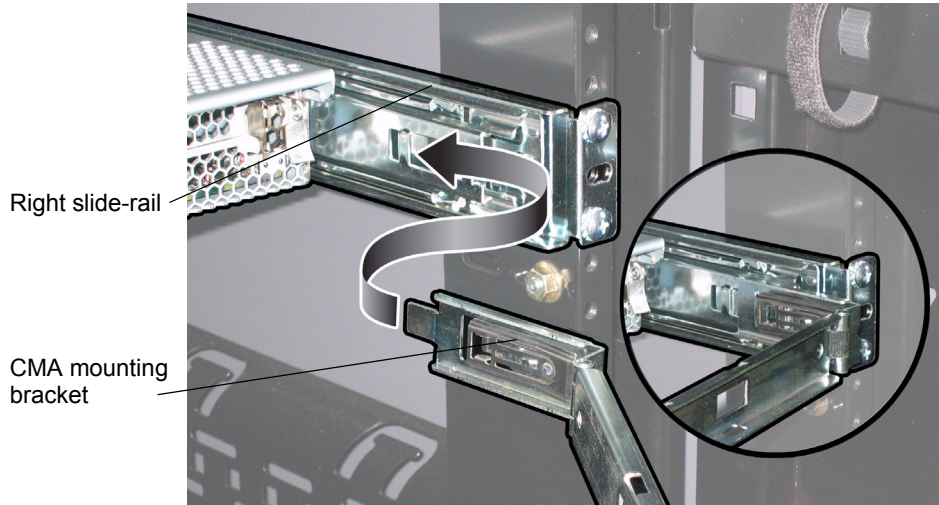

FIGURE 1-7 Inserting the CMA Mounting Bracket Into the Rear of the Right Slide-Rail
5. Insert the CMA's mounting bracket connector into the right slide-rail until the connector locks into place with an audible click. See FIGURE 1-7.